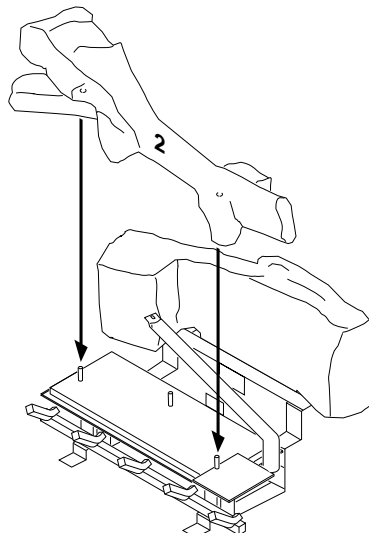

Figure 50 - Installing Log Assembly No. 2
2. Place log #2 (two log assembly) onto pins on left and right of the front burner (see Figure 50). The middle pin is not used.